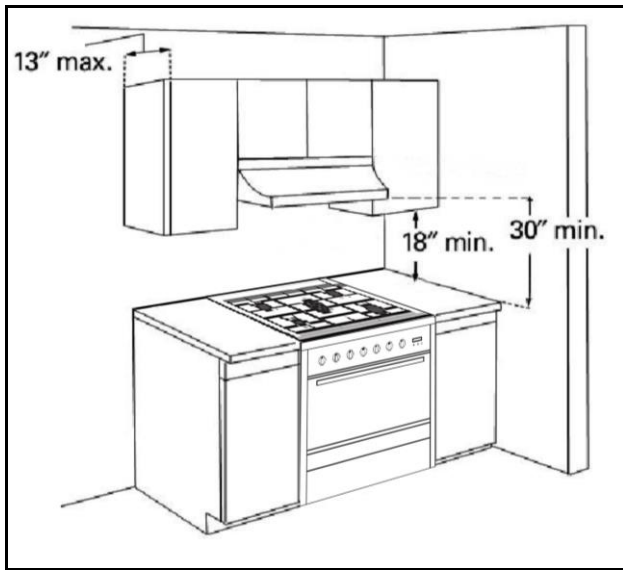

Figure 1
- **⚠** To eliminate the risk of burns or fire by reaching over heated surface units, cabinet storage space located above the surface units should be avoided. If cabinet storage is to be provided, the risk can be reduced by installing a range hood or microwave hood combination with minimum 400 CFM that projects horizontally a minimum of 5" (12.7 cm) beyond the bottom of the cabinets. (See Figure 1)
- **⚠** If a range hood is installed above the appliance, maintain a 30" minimum clearance between cooking surface and bottom of range hood. The range hood must be connected directly to flues or to the outside. (See Figure 1)
and cabinets around the appliance can withstand heat up to 200° F (93°C) generated by the appliance. (See Figure 1)
-  Cabinet opening dimensions that are shown must be used. Given dimensions are minimum clearances. (See Figure 1)
-  Working areas adjacent to the range should have 18" minimum clearance between countertop and cabinet bottom. (See Figure 1)
-  Avoid placing cabinetry directly above the appliance when possible. If cabinetry is used above the cooking surface, use cabinets no more than 13" deep. Make sure the wall coverings, countertop and cabinets around the appliance can withstand heat up to 200° F (93°C) generated by the appliance. (See Figures 1 and 2)
-  Cabinet opening dimensions that are shown must be used. Given dimensions are minimum clearances. (See Figures 1 and 2)
-  Working areas adjacent to the range should have 18" minimum clearance between countertop and cabinet bottom. (See Figures 1 and 2)